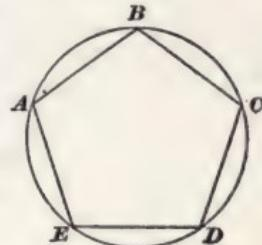

FIG. 45.
**74.** An **inscribed polygon** is one whose vertexes lie on the circumference of a circle and whose sides are chords, as  $A B C D E$ , Fig. 45.